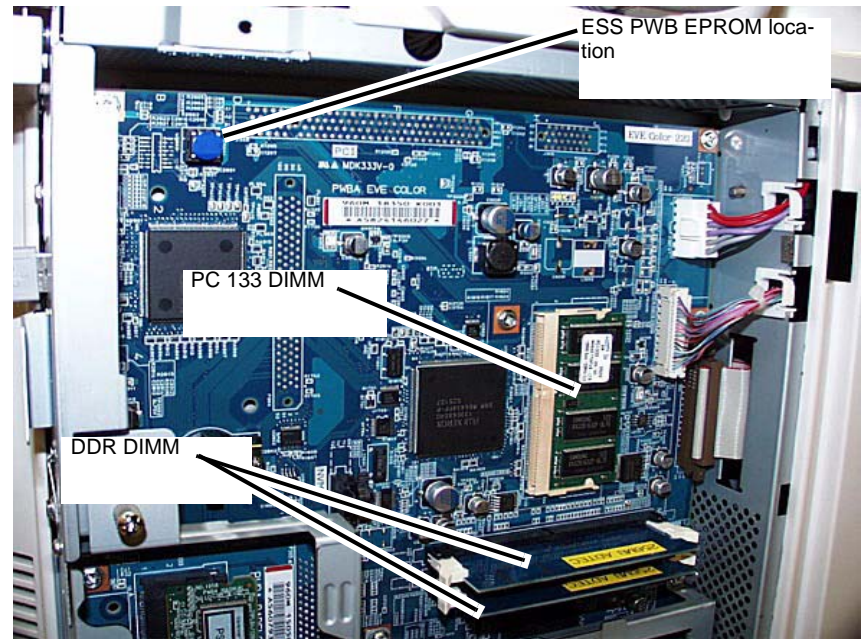

Figure 10 ESS PWB EPROM Location
3. Install the **DDR DIMM**, **PC133 DIMM** and EPROM from the old ESS PWB on to the new ESS PWB. (Figure 10)